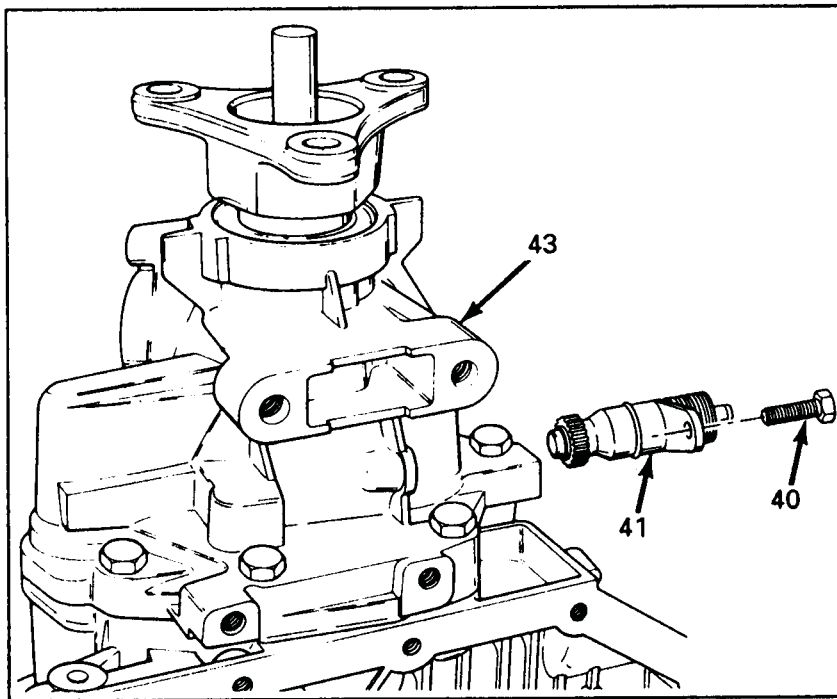

Figure 120
12. Install the speedometer driven gear in the extension housing, and secure with 10mm bolt as shown in Figure 120.